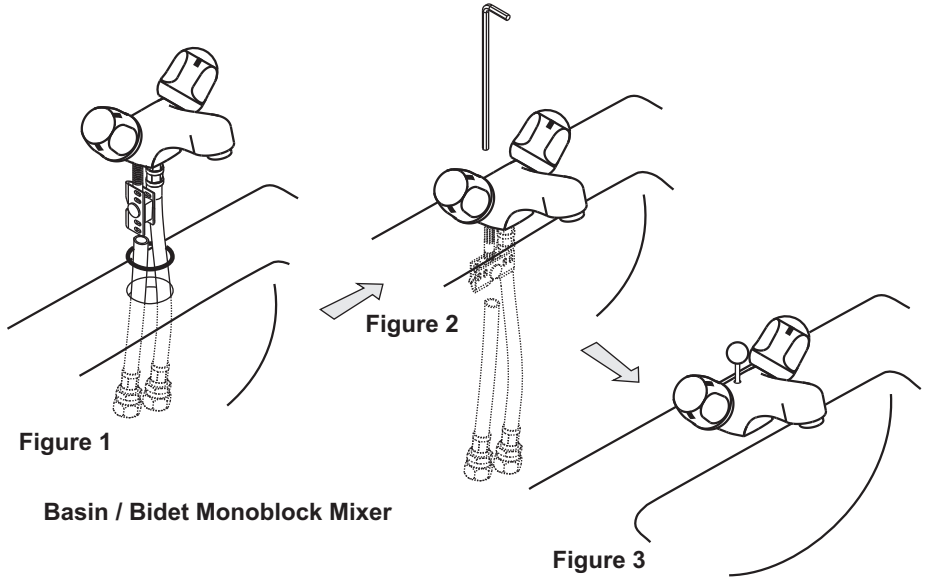

Figure 1
- Hold the fixation bracket in the vertical position and place through the tap hole ensuring that the 'O' ring remains above the platform as this acts as a watertight seal between the two surfaces, (Figure 1).